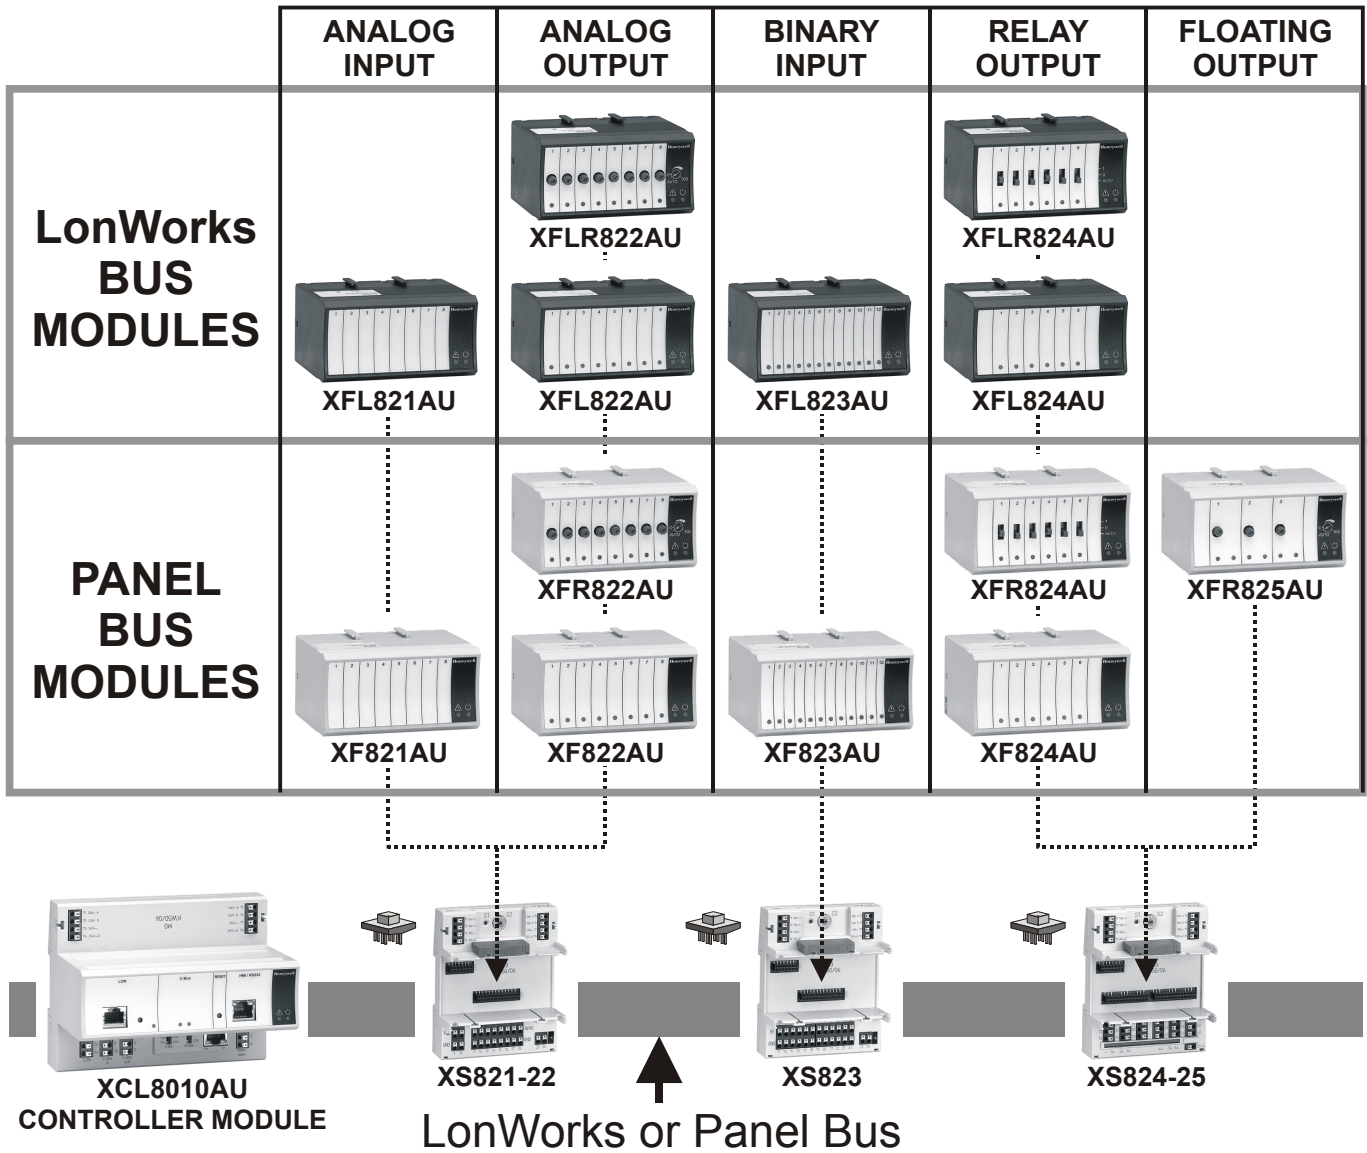
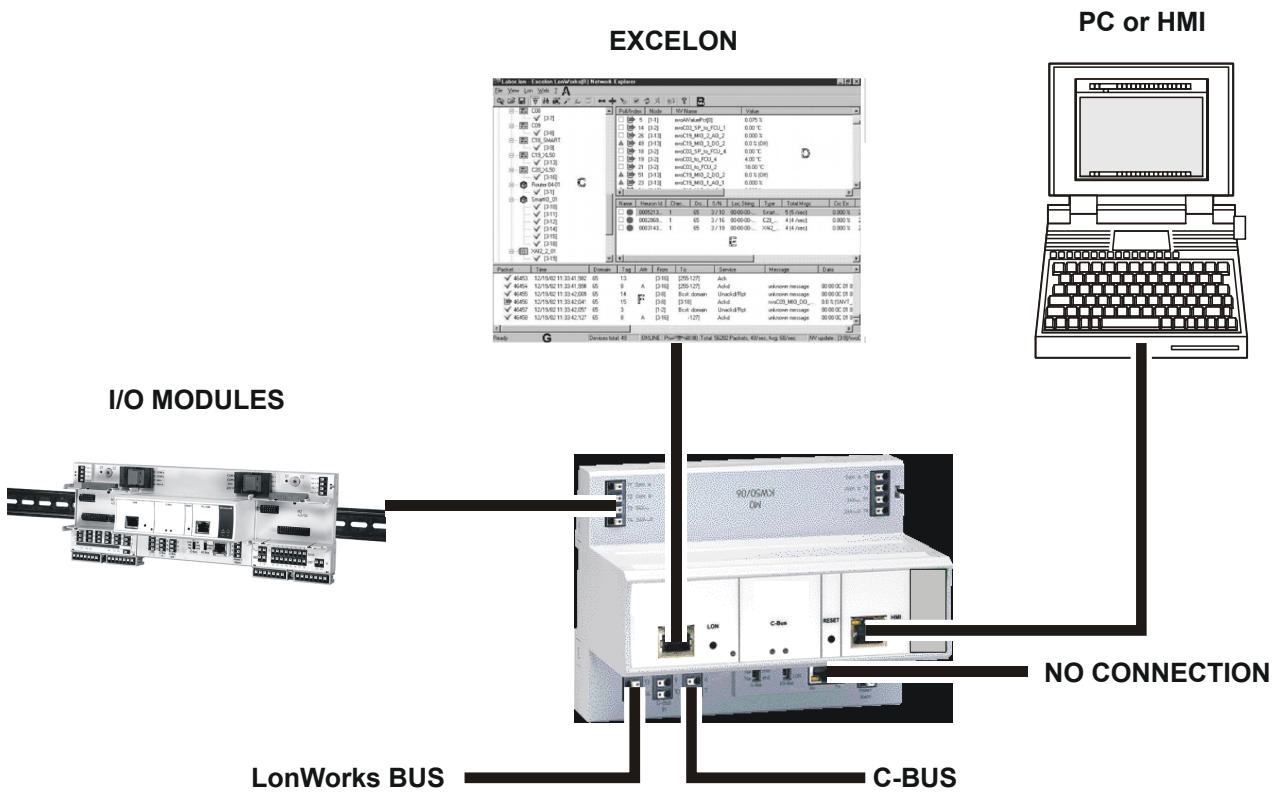

Fig. 2. Overview of I/O modules and terminal sockets
Fig. 3. Connections to the XCL8010AU Controller
1. Connect input/output device wiring, C-Bus transmission wiring (minimum 18 gage [0.8012 sq mm]), LON Bus transmission wiring, and 14507063 Power Cable to Controller per job drawings. Fig. 2 and Fig. 3 show typical controller wiring. Four Power Module models are available (see Table 2).